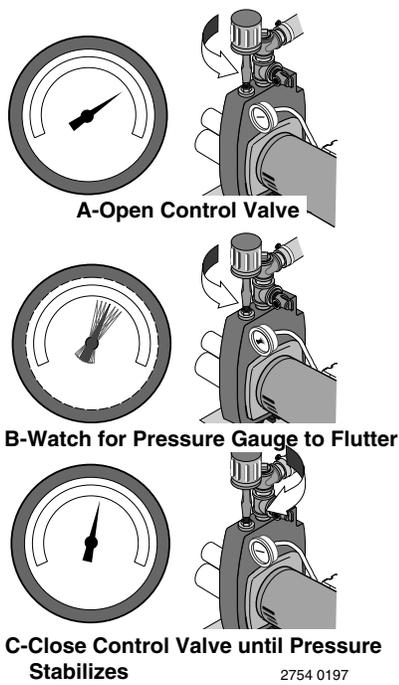

Figure 11: Set Control Valve
Step 5. **Deep Well only:** When pressure has built up and stabilized at about 50 PSI, slowly open the control valve (see Figure 11) and let the pressure drop until the pressure gauge needle starts to flutter. When the needle flutters, close the valve just enough to stop the flutter (see Figure 11). Your pump is now operating at its most efficient point.